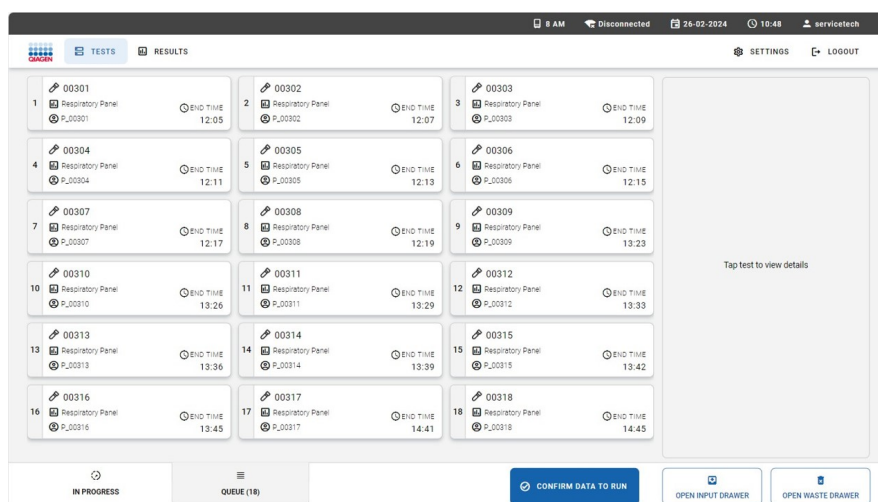

Figure 22. Sample queue screen.
If sample type autodetection is enabled, the system will automatically recognize the sample type used. The sample type will be shown as autodetected on the test details section of the sample queue screen. If sample type autodetection is not feasible for the assay used, the sample type has to be chosen manually. If sample type autodetection is disabled, you might need to select the appropriate sample type manually. The sample type will be shown on the test details section of the sample queue screen (Figure 22).
2. Close the input drawer. The system will scan the sample ID barcode of the cartridges and prepare a queue (Figure 22).
When calculated, the test queue is shown as below (Figure 22). Review the data shown in the queue. In case of an error, the respective cartridge will be moved to the waste tray after confirming the queue.